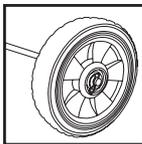

FIGURE 4
5. Slide wheel onto axle next to washer. **FIGURE 4.** Be sure flat side of wheel hub is facing outward.